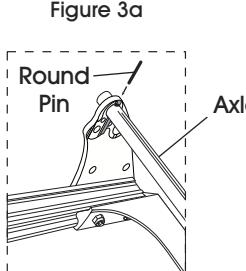

Figure 3a
2. Insert axle through holes in axle supports. Align holes in axle with grooves on inside of the axle supports. Use a hammer to tap in the round pins. (See Figure 3a)